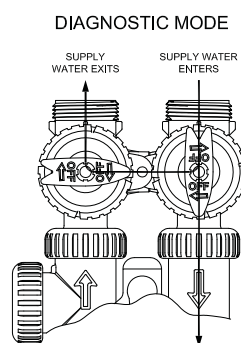

figure 3
3. Diagnostic Position: The inlet handle points in the direction of flow and the outlet handle points to the center of bypass valve, system water pressure is allowed to the control valve and the plumbing system while not allowing water to exit from the control valve to the plumbing system. (see figure 3)
If using optional bypass **SLOWLY** turn bypass valve to **DIAGNOSTIC** position (See figure 3 on page 4) or slowly open inlet valve to allow water to slowly enter filter.